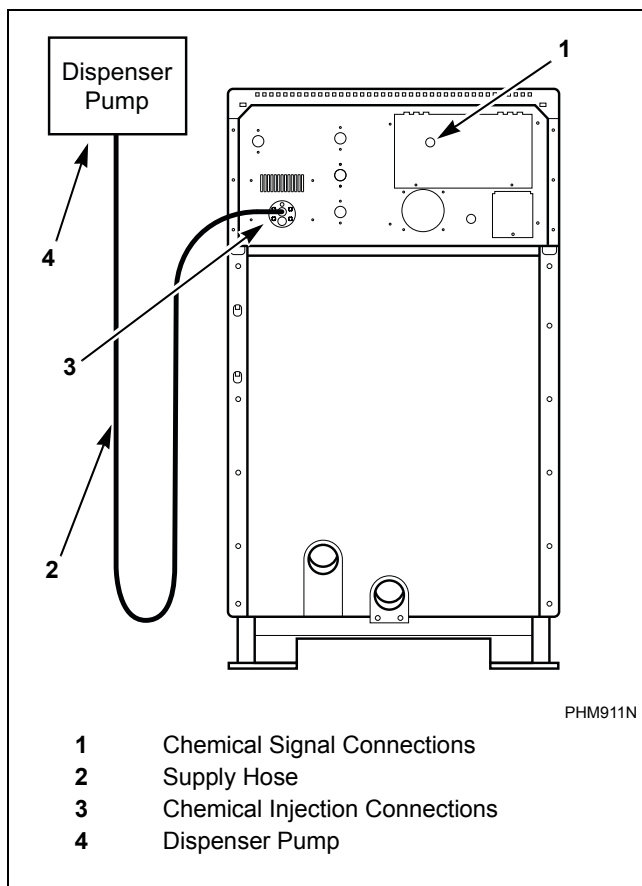

Figure 17
**IMPORTANT:** Undiluted chemical dripping can damage the machine. All chemical injection supply dispenser pumps and dispenser tubing should be mounted below the washer's injection point. Loops do not prevent drips if these instructions are not followed. *Figure 17* shows a typical chemical injection supply system.
4. Ideally, pump system should be mounted so that it is lower than chemical injection ports. Hose connections at injection port should be highest point in hose to prevent chemical drippage. Refer to *Figure 17*.